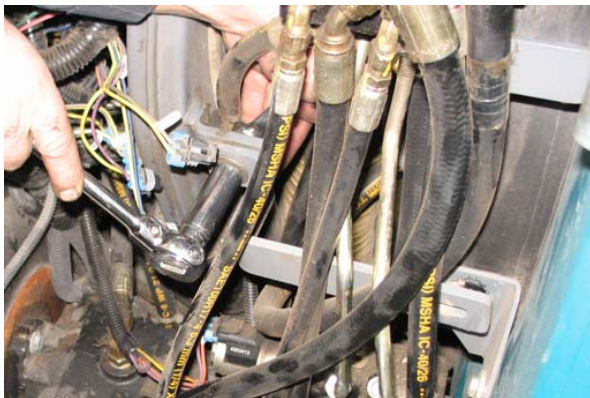

FIG. 15
22. Reinstall the support bracket. (Fig. 15)